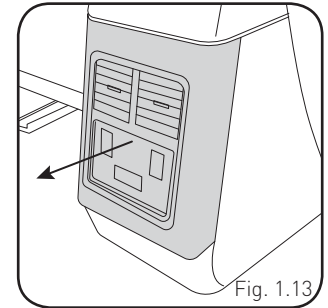

Fig. 1.13
- Gently pull outward on the panel located on the rear of center console. Disconnect any wiring harnesses and set aside. (Fig. 1.13)